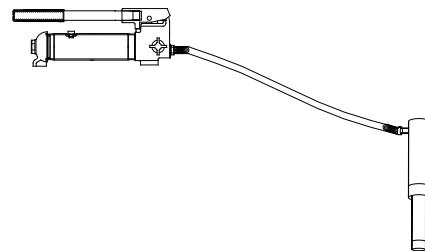

Figure 2 - Illustration to bleed air from system
1. Place pump at a higher elevation than the hose and cylinder as shown in figure 2 below.
| Erratic action                                                                | <ul style="list-style-type: none"> <li>• Air in system or pump cavitation.</li> <li>• External leakage in cylinder.</li> <li>• Cylinder sticking or binding.</li> </ul>                                                                                            | <ul style="list-style-type: none"> <li>• Vent the system (refer to figure 2).</li> <li>• Contact service center.</li> <li>• Contact service center.</li> </ul>                                                                                                                                                                                                                          |
| Poor performance                                                              | <ul style="list-style-type: none"> <li>• Oil level in pump is low.</li> <li>• Air trapped in system.</li> </ul>                                                                                                                                                    | <ul style="list-style-type: none"> <li>• Ensure proper oil level.</li> <li>• Vent the system (refer to figure 2).</li> </ul>                                                                                                                                                                                                                                                            |